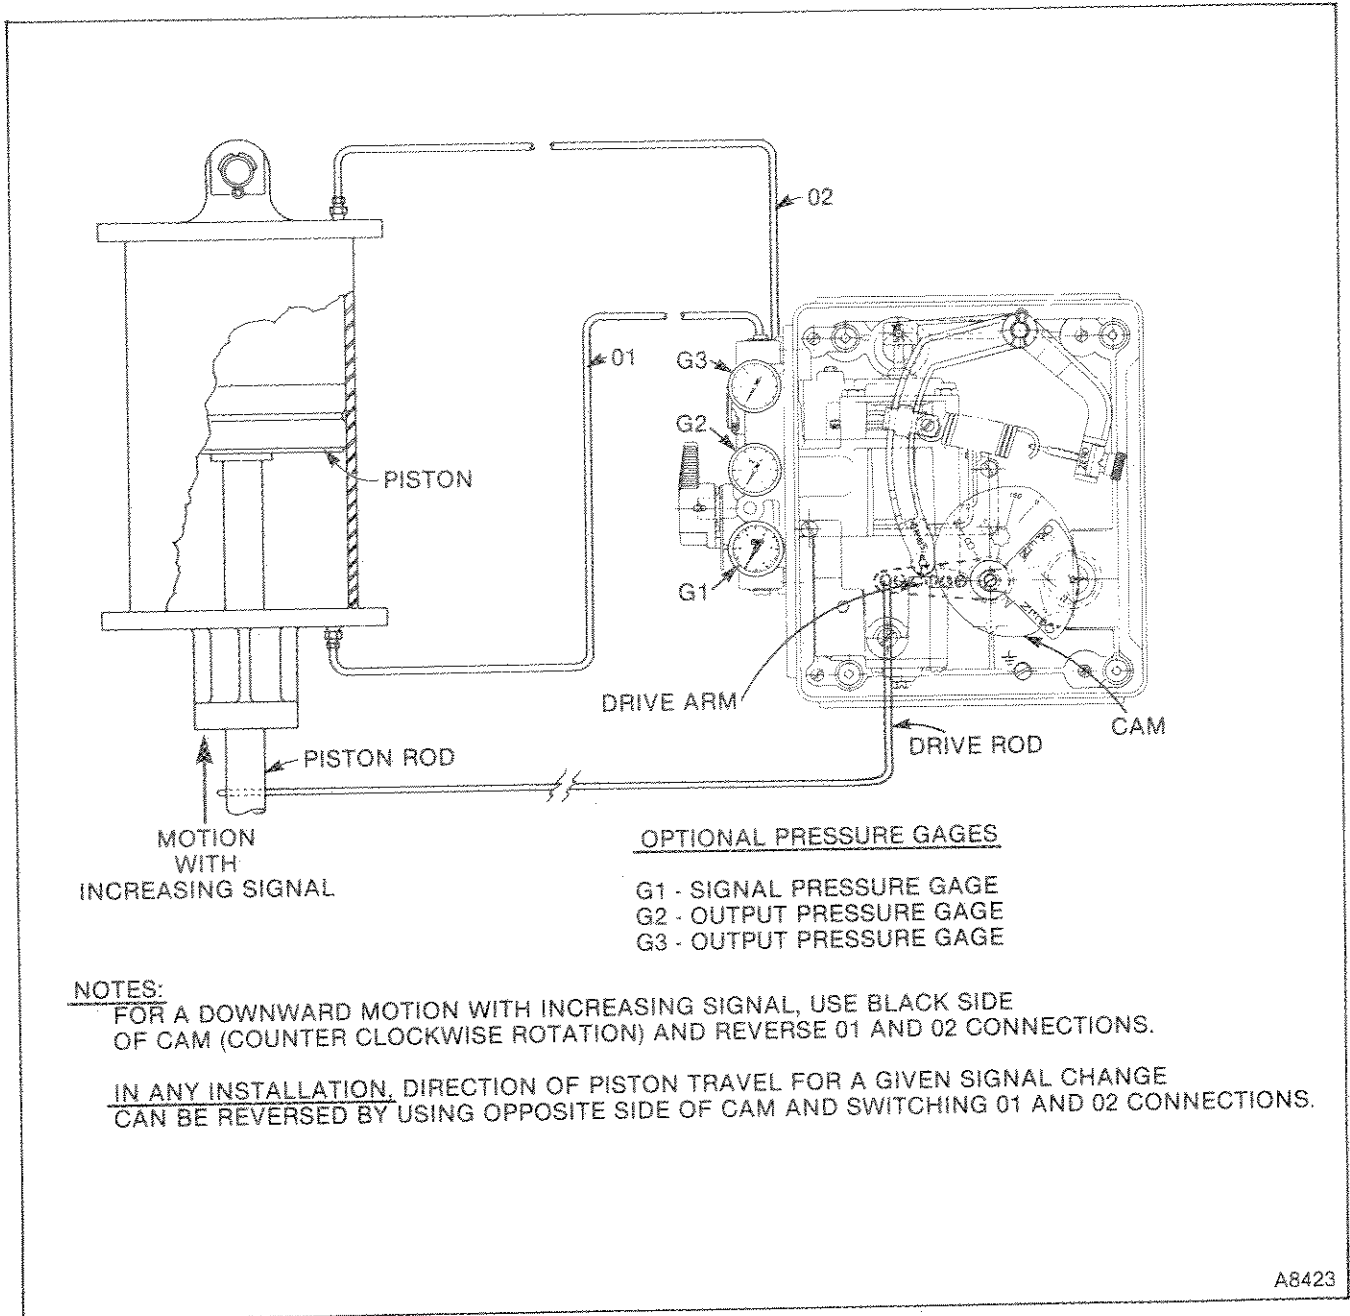

FIGURE 2 — Installation for Double-Acting Cylinder Applications.
Figure 2 shows a typical Positioner installation for a double-acting cylinder. Pressure gages G1,
2. Move control drive or valve by hand from 0 to 100% of travel. Check position feedback drive arm (see Figure 2) to make sure you have full travel. If the drive arm binds, reposition the drive rod.
4. If optional pressure gages G1, G2, and G3 were furnished, make certain gages are installed in correct location for application (Figure 2 or 3) and all connections are tight. Refer to Figure 1 for torque values. Check for leakage, while under pressure, with soapsuds solution.